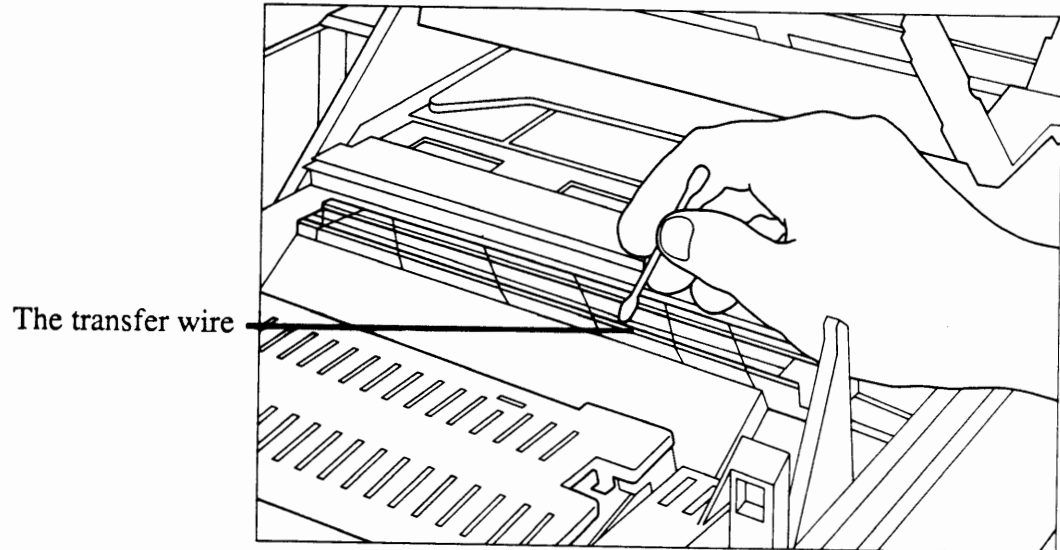

FIGURE 18
Open the printer and pull out the toner cartridge (if necessary, use the instructions in this section). Gently draw the cotton swab (provided with the cartridge) up and down the corona wire (Figure 18).
- 6.37 Registration Shutter Assembly (Figure 18)